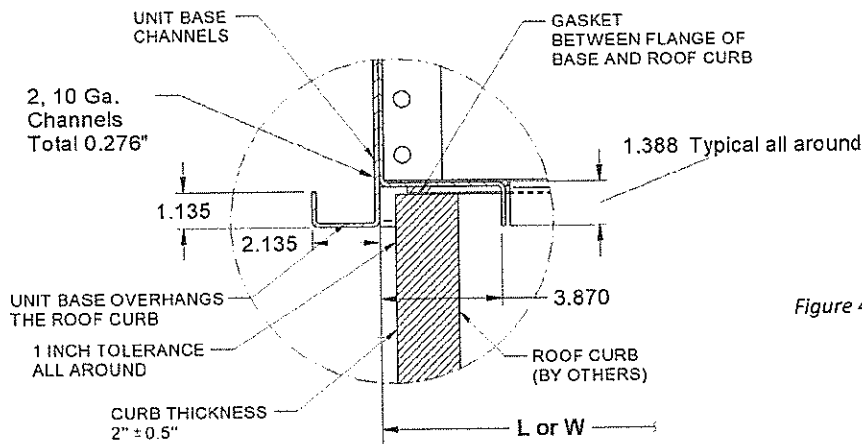

Figure 4 Unit Base Detail with Curb
- Refer to Roof Curb for Modular Units, if applicable, and also see Figure 4 Unit Base Detail with Curb